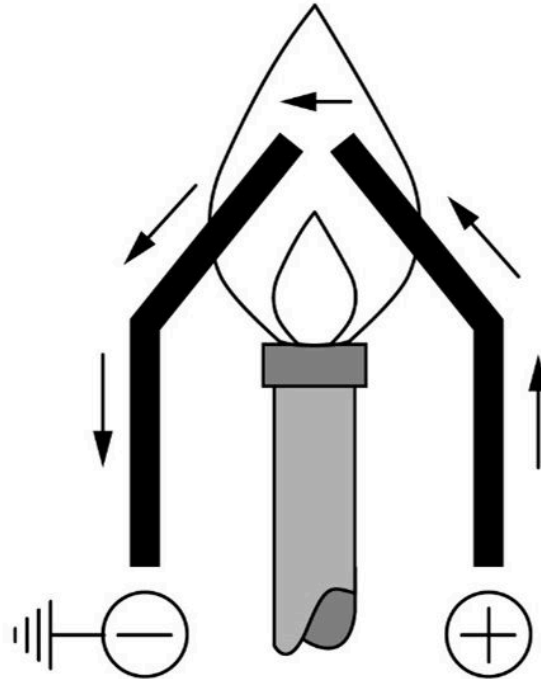

Figure 7 Electron flow through ionized flame
- Figure 7 “Insert type pilot orifice” by Camosun College is licensed under a CC BY 4.0 licence.
The operation of the flame rod is based on principle of flame ionization, whereby ions are formed during combustion process. This ionization process makes the flame a high resistance conductor of electricity. This phenomenon can be used to make a flame act like a switch and complete the flame sensing circuit by allowing a small amount of current to flow whenever the pilot flame is present (Figure 7).
When AC voltage is applied across the non-rectified flame conductive system shown in the previous Figure 7 the resulting flame current constantly changes during each half cycle of the AC supply. Consequently, the amount of current is the same in each direction.
- Figure 7 “Electron flow through ionized flame” by Camosun College is licensed under a CC BY 4.0 licence.